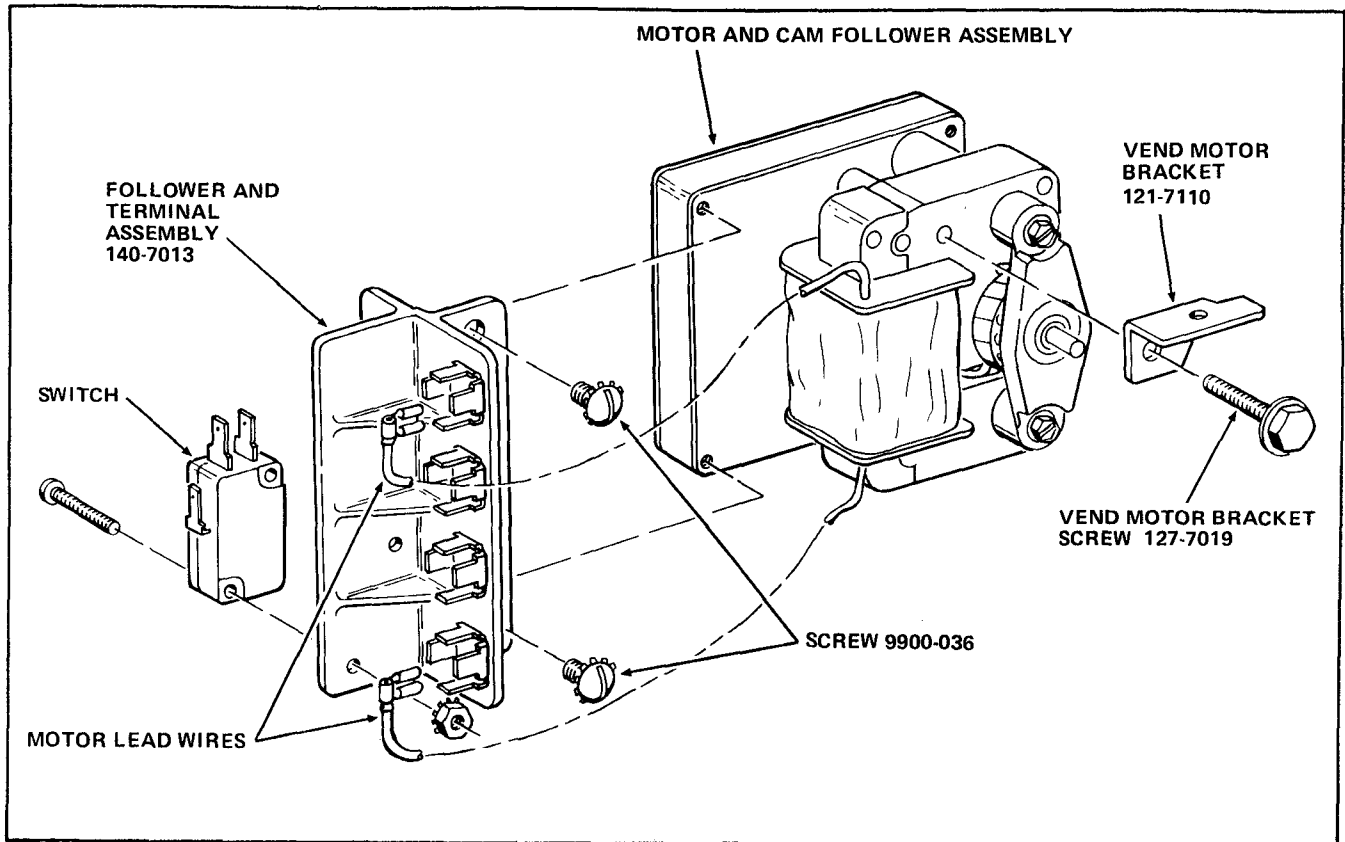

FIGURE 4
4. Attach the Follower and Terminal Assembly, part number 140-7013, which is included in the Kit and has FOUR terminals, to the Gearbox of the Motor and Cam Follower Assembly, using two Screws, part number 9900-036, included in the kit. See Figure 4.
5. Attach the Switch, two Screws and two Nuts, removed in Step B-1, to the Follower and Terminal Assembly installed on the Gearbox in Step B-4. See Figure 4.
6. Connect the two lead wires of the Motor to the follower and Terminal Assembly as shown in Figure 4.
7. Attach the Vend Motor Bracket, part number 121-7110, included in the kit, to the Motor, using the Vend Motor Bracket Screw, part number 127-7019, also included in the kit. See Figure 4.